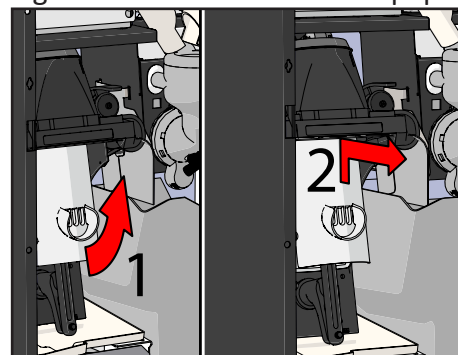

Figure 41. Remove brewer
6. Tip the underside of the brewer towards you. Lift slightly and remove the brewer from the machine (see Figure 41).